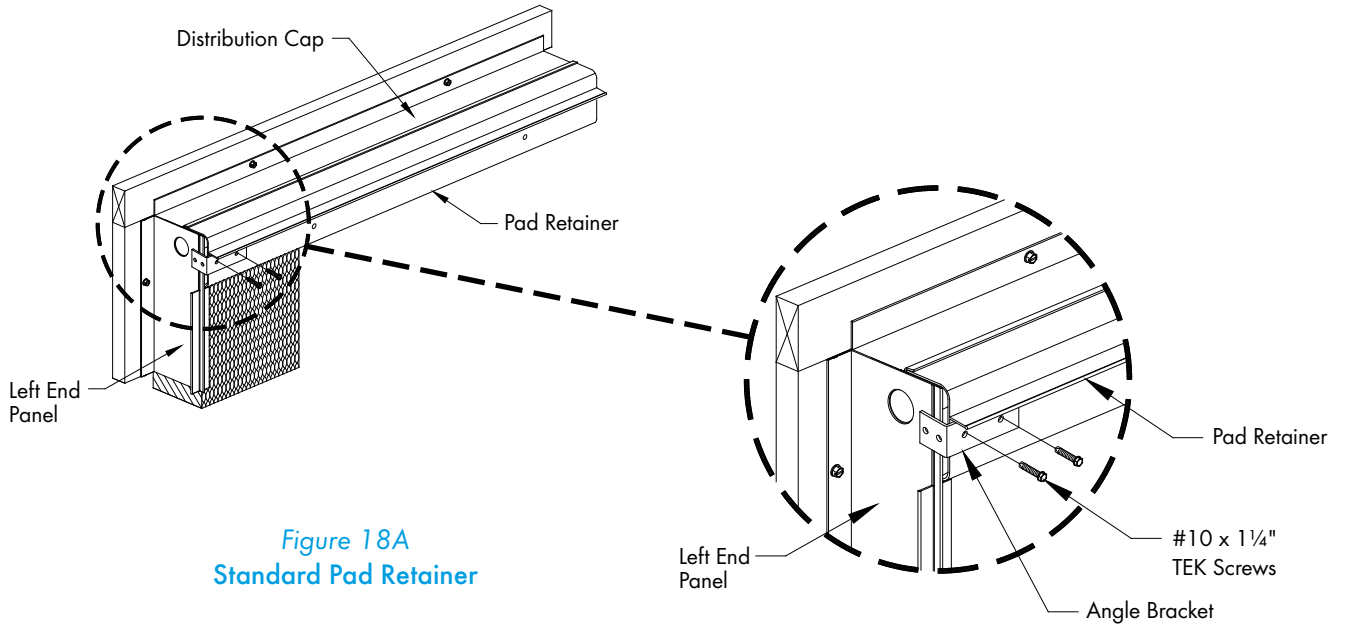

Figure 18A
Holding the left End Panel tight to Distribution Cap, place the long side of the Angle Bracket on the Pad Retainer and the short side over End Panel. *See Figure 18A and 18B.* Attach the Angle Bracket to the Distribution Cap using (2) #10 x 1¼" TEK Screws (provided). Repeat for Right End Panel.